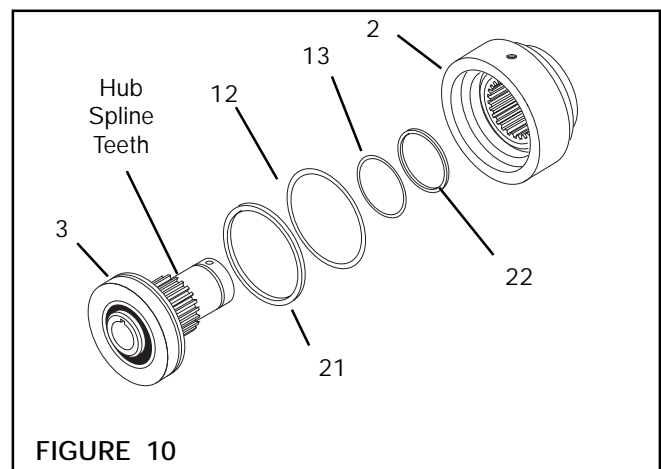

FIGURE 10
1. Coat O-ring Seal contact surfaces of Piston (Item 3) and Cylinder (Item 2) with a thin film of O-ring lubricant (See Figure 10).
2. Coat O-ring Seals (Items 12 and 13) with a thin film of O-ring lubricant (See Figure 10).
3. Install O-ring Seals (Items 12 and 13) and Back-up Ring Seals (Items 21 and 22) on Piston (Item 3) and Cylinder (Item 2) (See Figure 10).
4. Coat Hub spline teeth with Never-Seez® (See Figure 10).
5. Making sure not to damage O-ring Seals (Items 12 and 13), press the Piston (Item 3) into the Cylinder (Item 2) (See Figure 10).